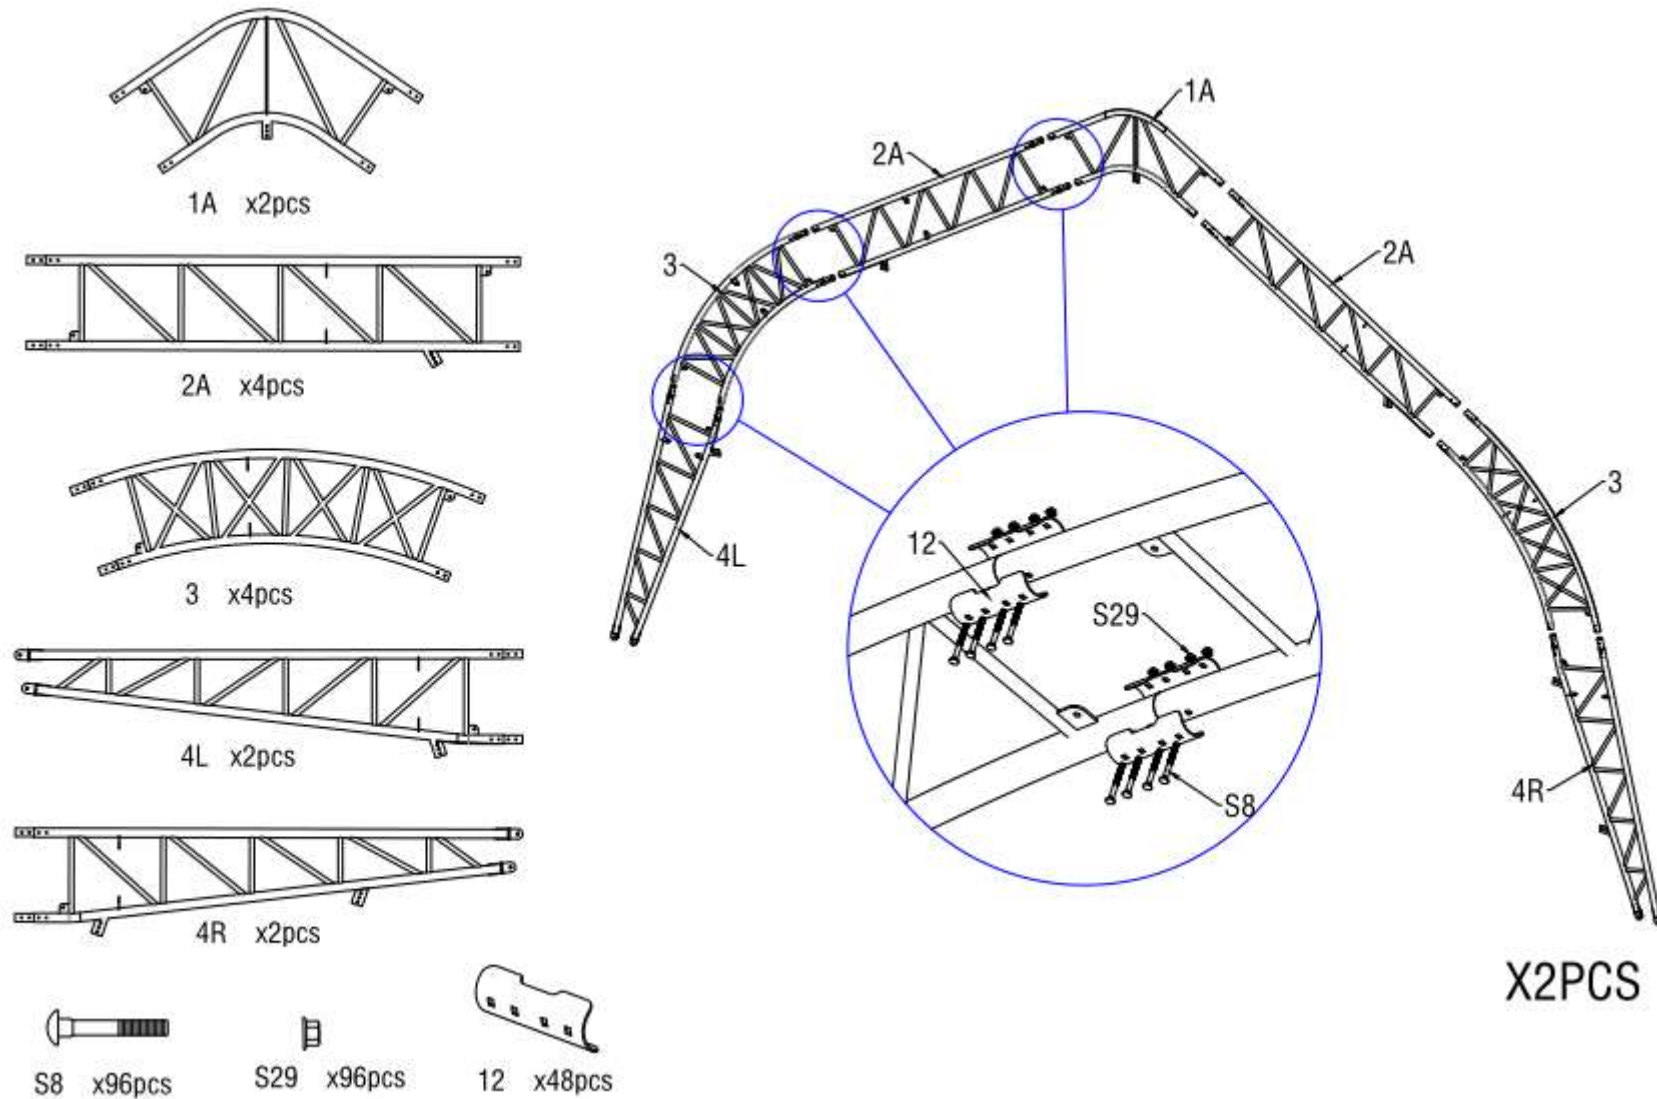

Figure 3
1. As Figure 3 shown to find one Top roof tube in the front and back door (No.1A), two Roof upper curving tube in the front and back door(No. 2A), two Roof middle curving tube (No. 3), two Lower curving tube in front and back door(4L,4R) and assemble the first group and final group of arch with Screw M8x70 (No.S8). **DO NOT install the screw on the top of the truss where the fabric will rest.**